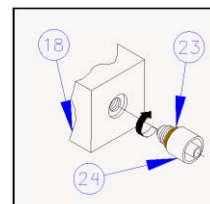

Figure 15. Luer Lock Adapter Installation
Roll the “O” Ring (23) over the threads of the Luer Lock Adapter (24) as shown in figure 15. Screw the Adapter into the bottom of the Wet Head until it is snug. **Do not use PTFE tape on the threads and do not over tighten.**